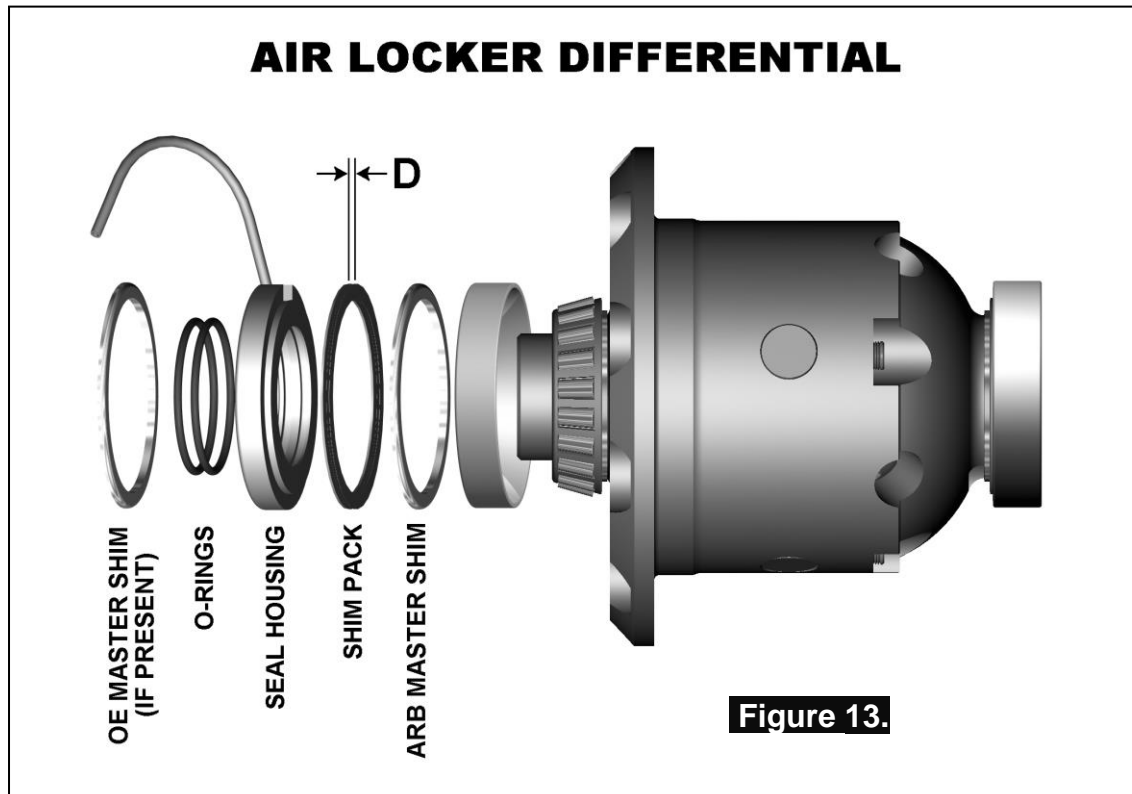

Figure 13.
In order to pre-load the tapered roller bearings in your *Air Locker*, measurements need to be taken so that a value can be calculated for the shim thickness 'D' in Figure 13.
- Add the specified pre-load amount to the measurement taken with the feeler gauge to determine a shim amount for 'D' in Figure 13.
- Install the shim pack 'D' between the master shim and the seal housing as shown in Figure 13.
- Add the specified pre-load amount to the measurement taken with the feeler gauge to determine a shim amount for '**D**' in Figure 13.
- Install the shim pack 'D' between the ARB master shim and the seal housing as shown in Figure 13.
- To decrease the amount of backlash, reduce the shim thickness 'B' (Fig.9.) and increase the shim thickness 'D' (Fig.13.) by the same amount. Reverse this step to increase the backlash.